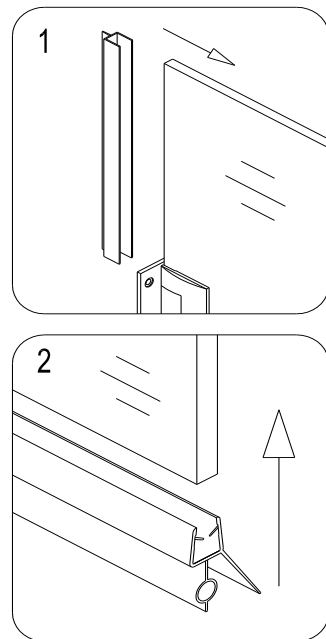

fig. 4
4. Measure the distance between the top edge of the glass door and upper edge of the top hinge and cut the piece off the **Side strip (06)** with a knife in the length according to your measurement. Repeat it to prepare the short strip for the lower section of the glass door. Then measure the distance between bottom edge of the top hinge and the upper edge of the bottom hinge and cut the rest of the strip to size. Remove the timber plate, open the door to its full section and push all the strip lengths onto the vertical edge of glass door. Push the **Bottom anti-water strip (07)** on the bottom edge of the glass door. See fig. 4 for details.
5. Mount the **Handle (02)**.